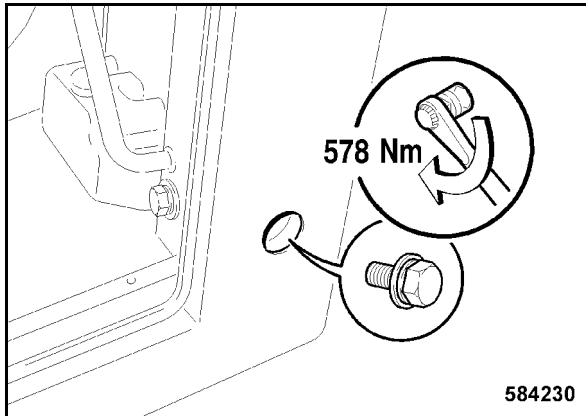

Fig. 213
- Tighten the rear lateral fastening screw on the left hand side with 578 Nm (Fig. 213).